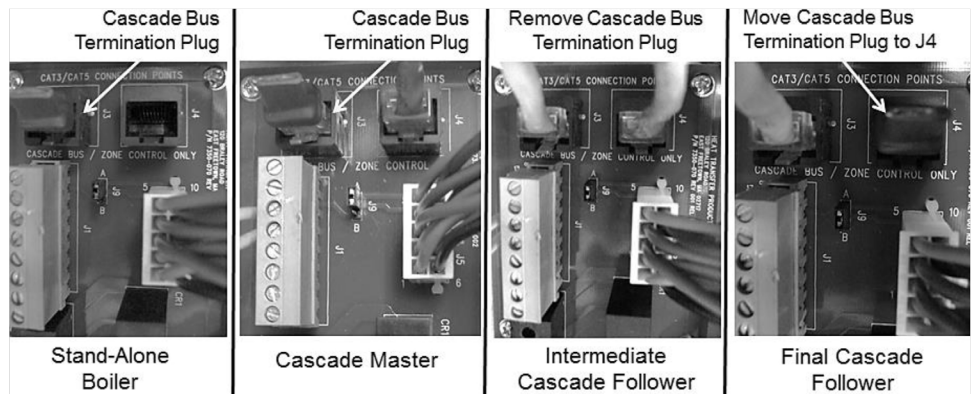

Figure 24 - Cascade Termination Plug Detail
3. Move jumper on connection board (shown in Figure 24) from A to B.